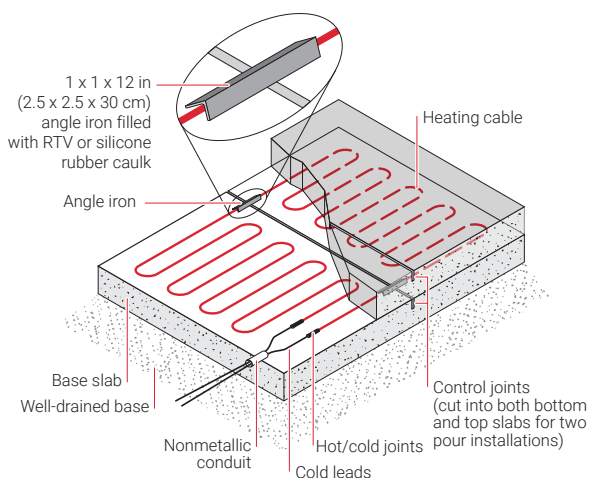
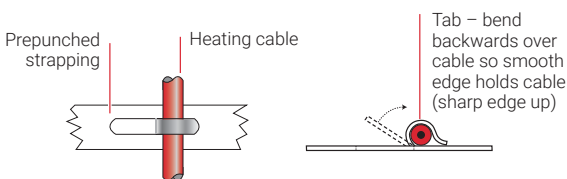
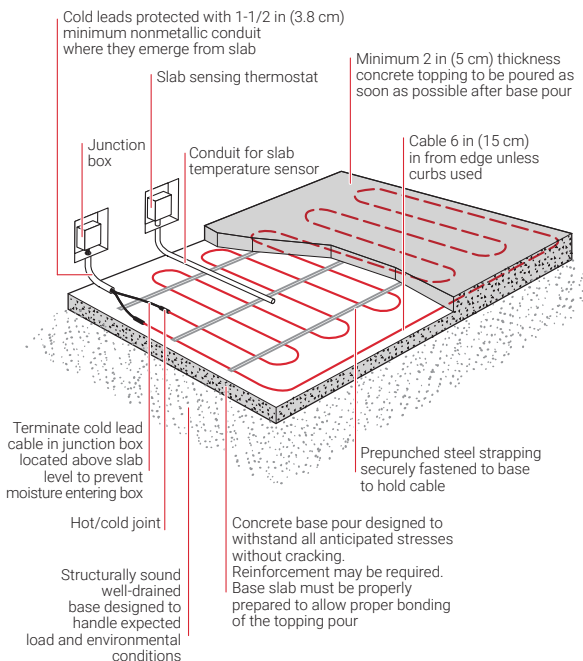

Figure 28: Crossing control joints
Figure 29: Method of bending tabs on prepunched strapping
Figure 30: Heating cable installation for animal pen floors
1. Mark the location of control and/or expansion joints on the edge forms and on the heating cable layout drawings. Control joints may be crossed as shown in Figure 28. Avoid crossing expansion joints.
3. Install prepunched strapping at 3 to 4 ft (0.9 to 1.2 m) intervals with additional runs, where required, to hold cable loops securely. Fasten the strapping in place using an appropriate fastening method (see Figure 30).
5. Lay out the heating cable in a serpentine pattern and fasten the cable to the prepunched strapping at the predetermined spacing, ensuring the watt density is as directed in the project design specifications. It is recommended that the tabs on the prepunched strapping be bent backwards over the cable as shown in Figure 29. Typical cable spacing ranges between 3 in (7.5 cm) minimum to 7 in (18 cm) maximum on centers. Stay at least 6 in (15 cm) from edges and outer walls (see Figure 30 for details). Cross control joints as shown in Figure 28.
6. Install the hot/cold joints so that they are at least 6 in (15 cm) in from the edge of the slab, ensuring that they will be completely embedded in the concrete (see Figure 7). Protect the cold leads with nonmetallic conduit where they emerge from the slab (see Figure 30).